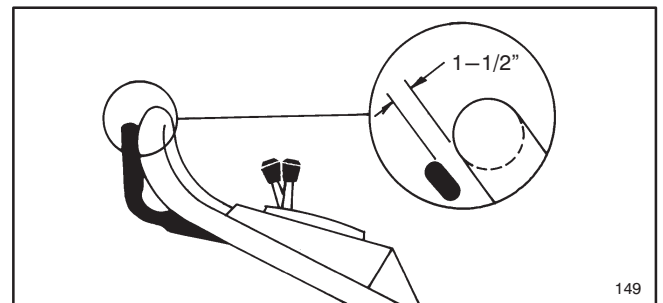

Figure 21
- Lift control bar until some resistance is felt. Control bar should be 1-1/2" from handle when properly adjusted (Fig. 21).